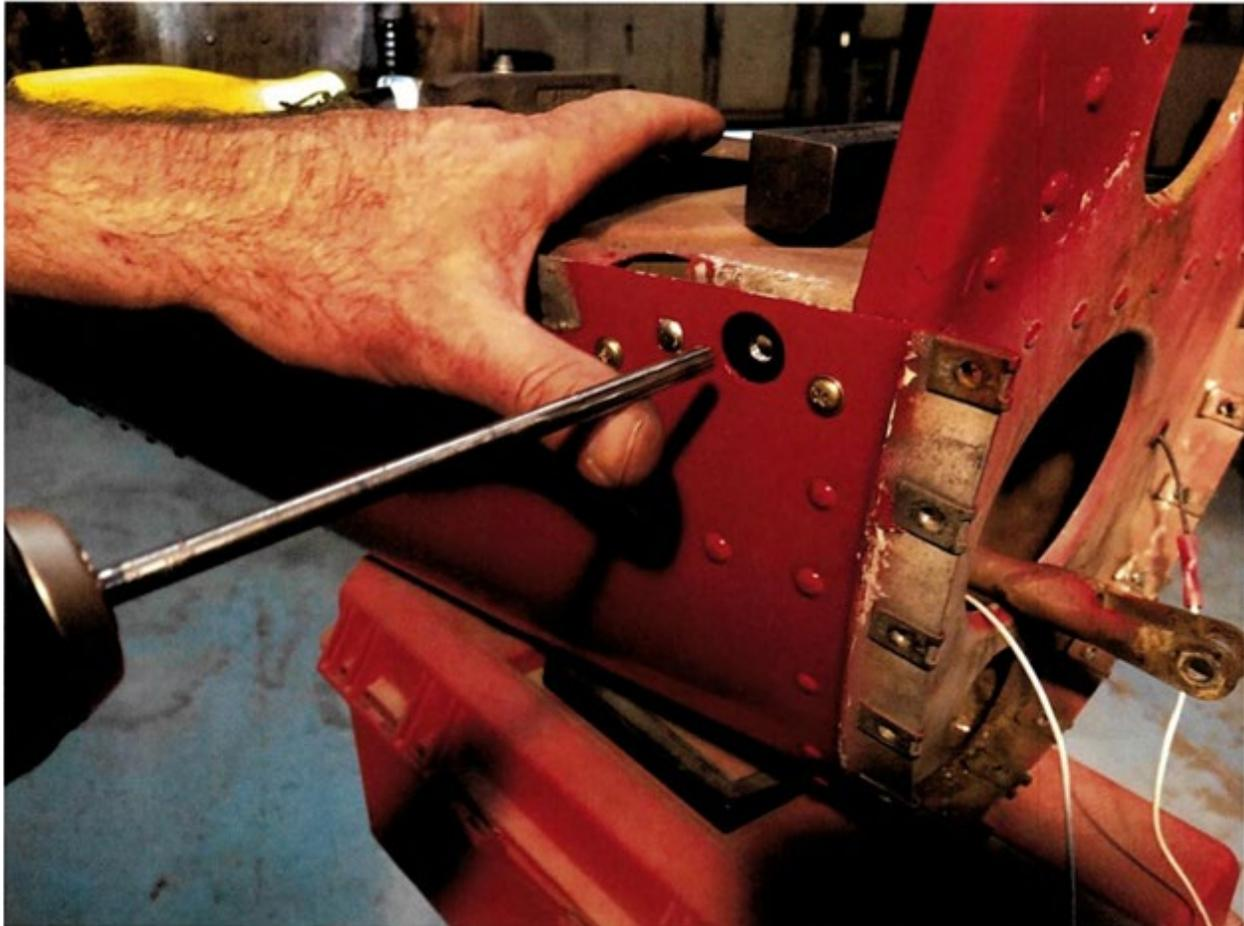

Figure 33: Ream Pivot Hole
21. Using the supplied $\frac{1}{4}$ " diameter reamer, ream the $\frac{15}{64}$ " hole as shown in Figure 33.